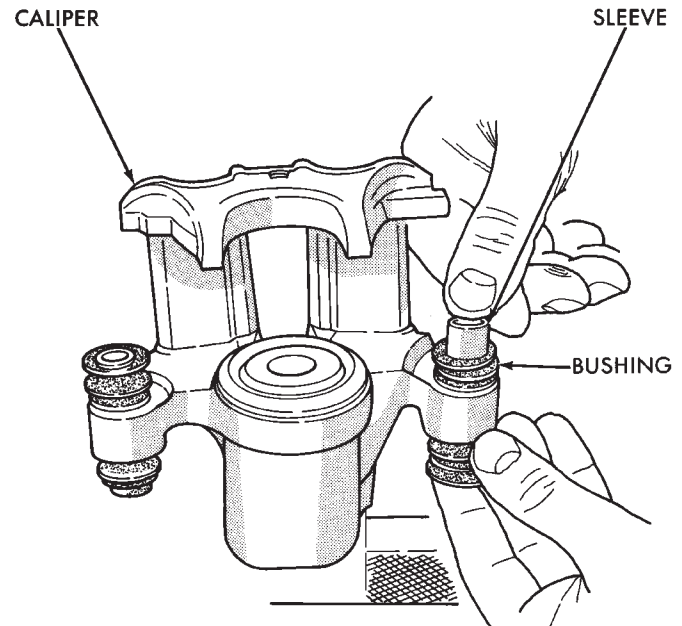

Fig. 158 Installing Sleeve In Bushing
(4) Lubricate the inside surfaces of the bushing using Mopar, Silicone Dielectric Compound or an equivalent.
(5) Install guide pin sleeve into one end of bushing until seal area of bushing is past seal groove in sleeve (Fig. 158).
(6) Holding convoluted boot end of bushing with one hand, push steel sleeve bushing through boot until one end of bushing is fully seated into seal groove on one end of sleeve (Fig. 158).